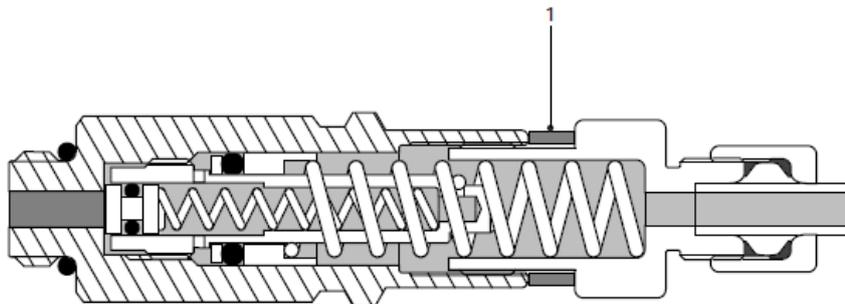

Figure 30. Meter Unit & Spacer
Figure 30 illustrates a new metering unit, one that has not yet been filled with grease. Item (1) in this figure